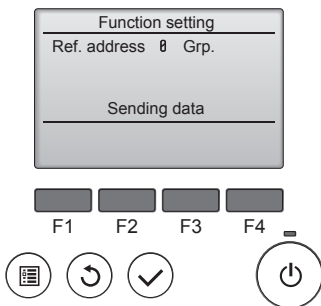

Fig. 6-15
- ⑤ (Fig. 6-15)
- ① Going to the function select mode